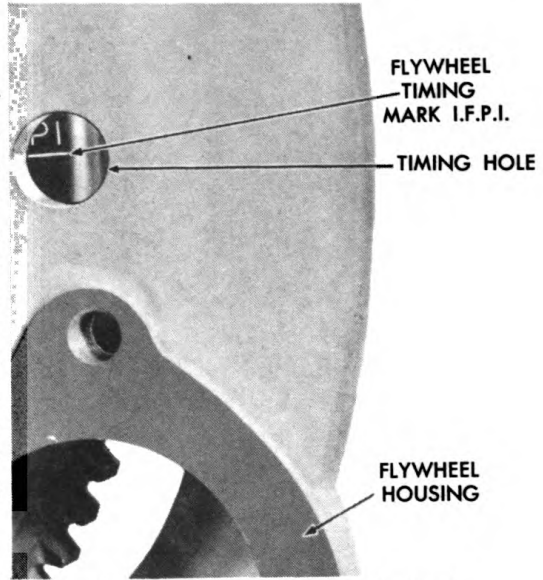

Figure 34. Timing Mark in Center of Hole
1. Crank the engine until the timing mark No. 1, F.P.I. (No. 1 fuel pump injects) is in the center of the timing hole of the flywheel housing. See Figure 34. **NOTE:** The No. 1 piston must be on the compression stroke when centering this timing mark in the timing hole of the flywheel housing. This can be checked by noting that both the intake and exhaust valves of No. 1 cylinder are completely closed and have clearance between the stems and rocker arms.
through the timing hole in the flywheel housing. This mark should be in the exact center of the hole. See Figure 34. If not the timing is either advanced or retarded. If the timing is advanced, the timing mark No. 1 F.P.I. is approaching the center of the flywheel housing timing hole. If retarded, the mark has gone past.